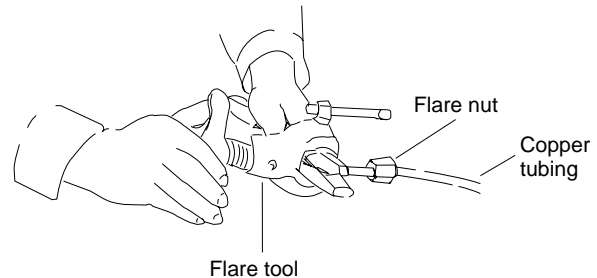

Fig. 44
- Make a flare at the end of copper tube with a flare tool.* (Fig. 44)